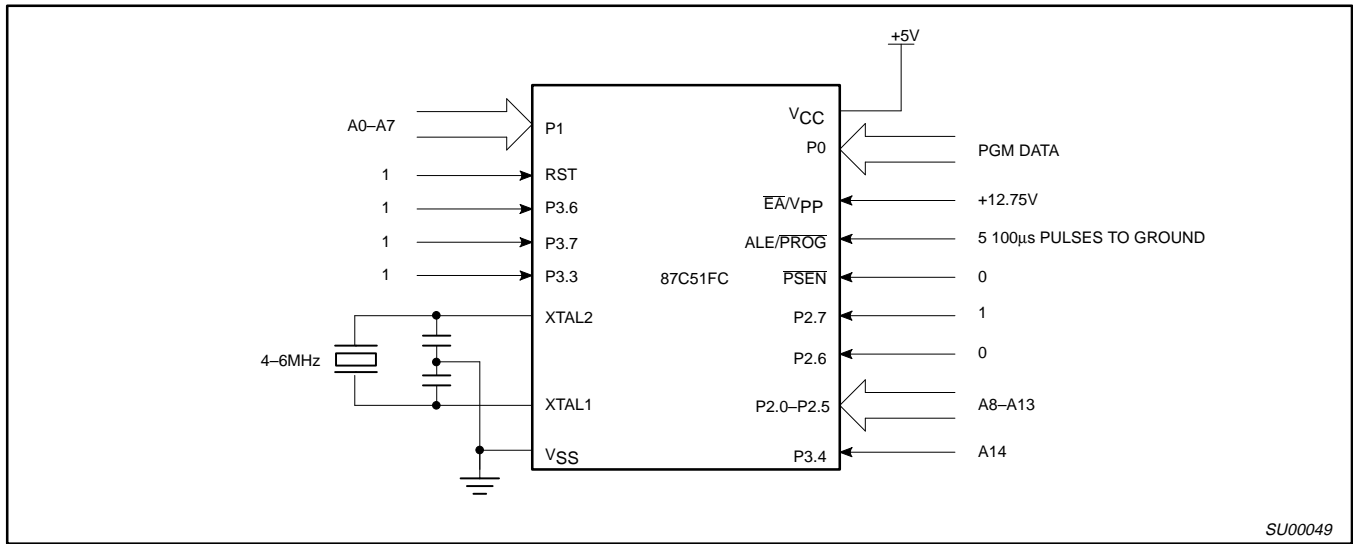
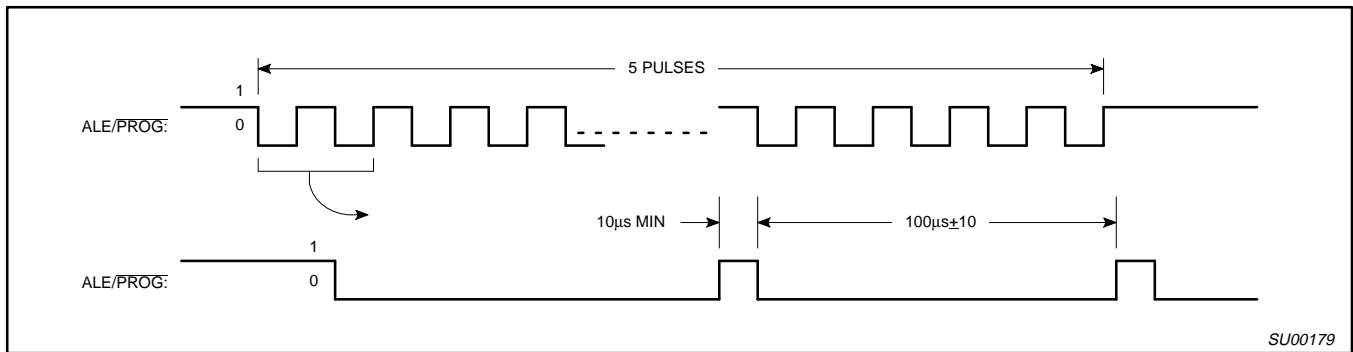
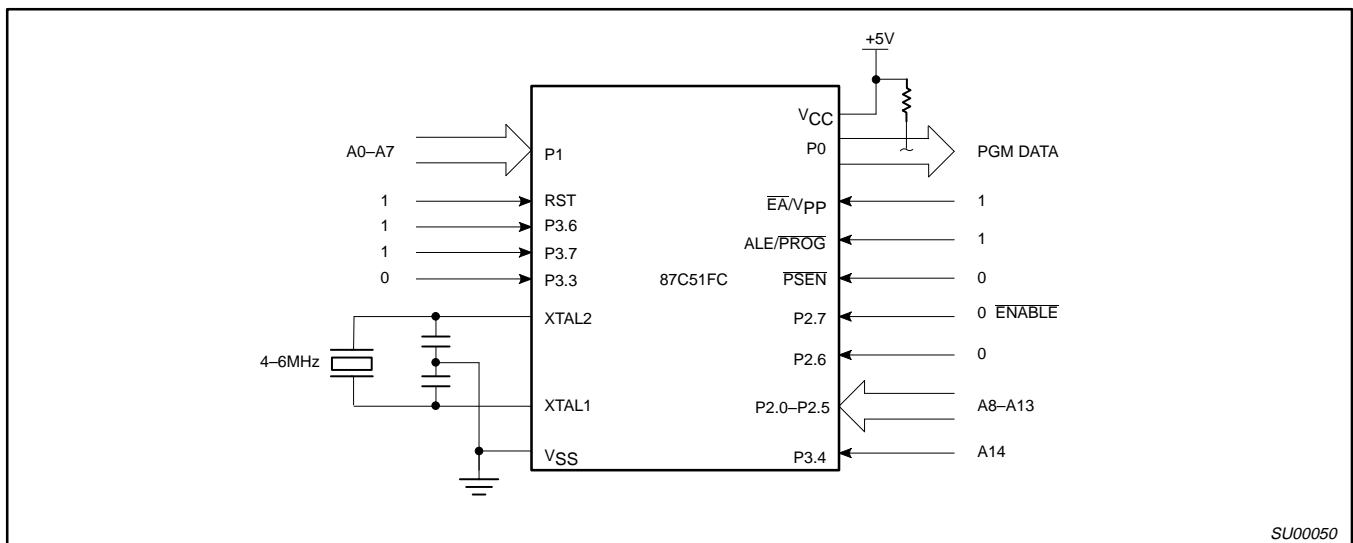

Figure 29. Programming Configuration
Figure 30. PROG Waveform
Figure 31. Program Verification
Table 4 shows the logic levels for reading the signature byte, and for programming the program memory, the encryption table, and the security bits. The circuit configuration and waveforms for quick-pulse programming are shown in Figures 29 and 30. Figure 31 shows the circuit configuration for normal program memory verification.
The setup for microcontroller quick-pulse programming is shown in Figure 29. Note that the 87C51FC is running with a 4 to 6MHz oscillator. The reason the oscillator needs to be running is that the device is executing internal address and program data transfers.
The address of the EPROM location to be programmed is applied to ports 1 and 2, as shown in Figure 29. The code byte to be programmed into that location is applied to port 0. RST,  $\overline{PSEN}$  and pins of ports 2 and 3 specified in Table 4 are held at the 'Program Code Data' levels indicated in Table 4. The ALE/PROG is pulsed low 5 times as shown in Figure 30.
If security bits 2 and 3 have not been programmed, the on-chip program memory can be read out for program verification. The address of the program memory locations to be read is applied to ports 1 and 2 as shown in Figure 31. The other pins are held at the 'Verify Code Data' levels indicated in Table 4. The contents of the address location will be emitted on port 0. External pull-ups are required on port 0 for this operation.
- \* FOR PROGRAMMING VERIFICATION SEE FIGURE 29.
FOR VERIFICATION CONDITIONS SEE FIGURE 31.